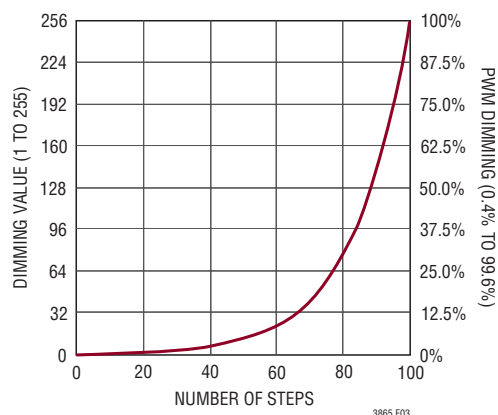
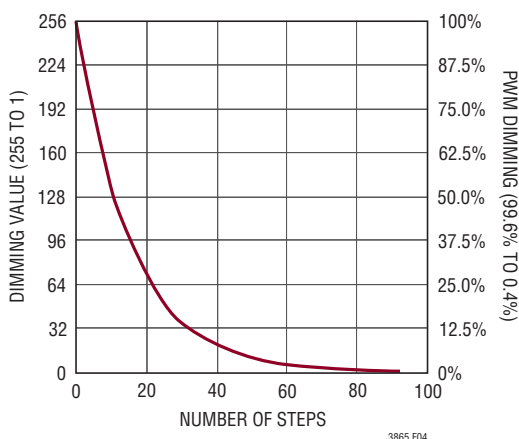

Figure 3. LT3965 Up Transition Dimming Curve
Figure 4. LT3965 Down Transition Dimming Curve
The number of the transitional steps depends on the distance between the initial value and the target value. The maximum number of transitional steps from 1/(256) dimming to 255/(256) dimming is 100 (see Figure 3) and the maximum number of transitional steps from 255/(256) dimming to 1/(256) dimming is 92 (see Figure 4). Each step runs 4 PWM dimming cycles, and each dimming cycle consists of 2048 RTCLK clock cycles. Then $T_{STEP} = T_{PWM} \cdot 4 = T_{RTCLK} \cdot 8192$